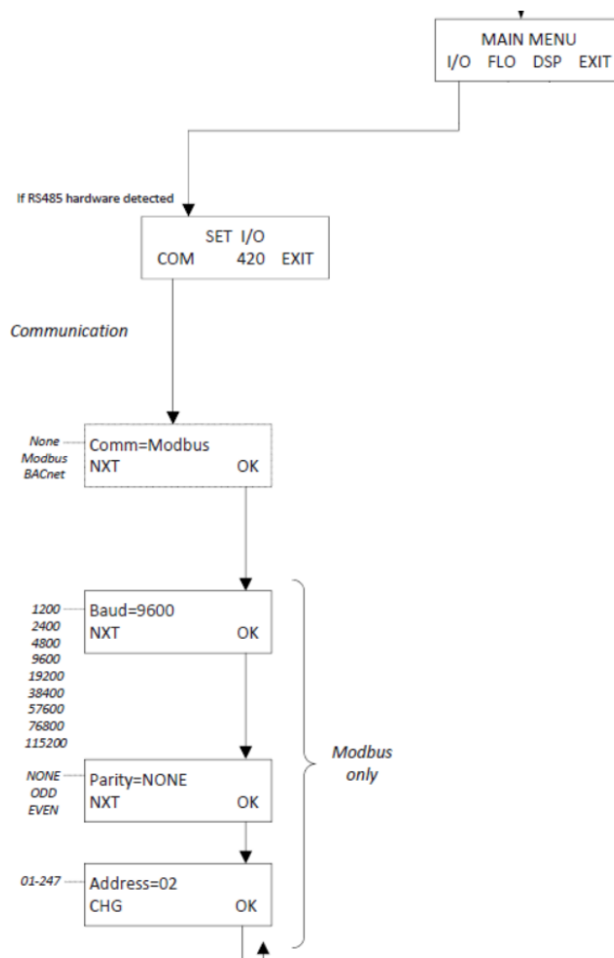

Figure 23: Baud Rate Menu Path
8. See Figure 23 below for the menu path to the baud rate. Navigate to the baud rate by using the F1-F4 buttons. Change the baud rate to 115200.